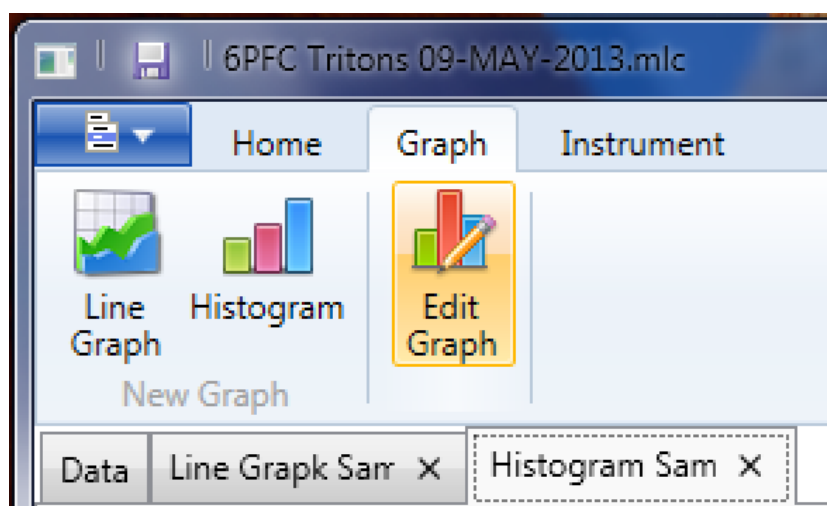

Figure 60
- 2) Select the **"Edit Graph"** button under the Data Window Graph menu (Figure 60).